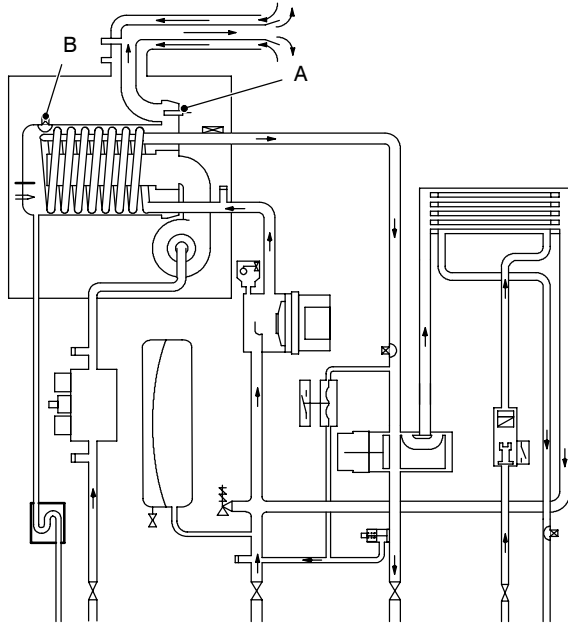
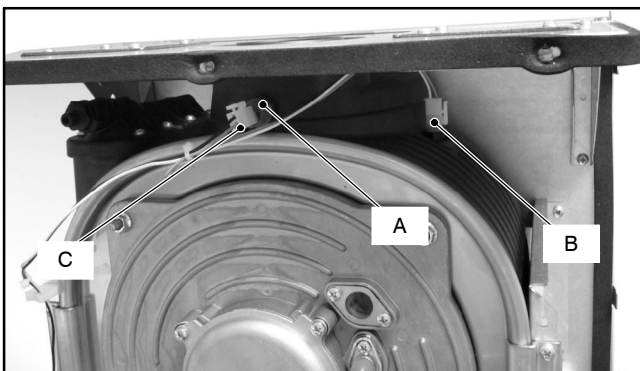

Fig. 20.1
Fig. 20.2
The Flue temperature probe NTC A in Fig. 20.1 and Fig. 20.2 senses the temperature of the combustion products that flow through the condensing heat exchanger.
A Safety thermal fuse B in Fig. 20.1 – Fig. 20.2 is also connected in series with the Flue temperature probe
- 3 Unscrew and remove the flue temperature probe A (Fig. 20.2) from the condensing heat exchanger.